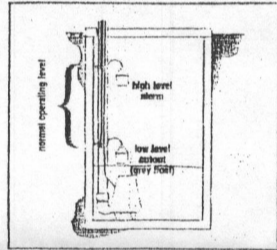

FIGURE 2 - Three float system
4. If using an optional redundant off float, mount slightly below the low level cutout float, but above the pump (see Figures 2 & 3).